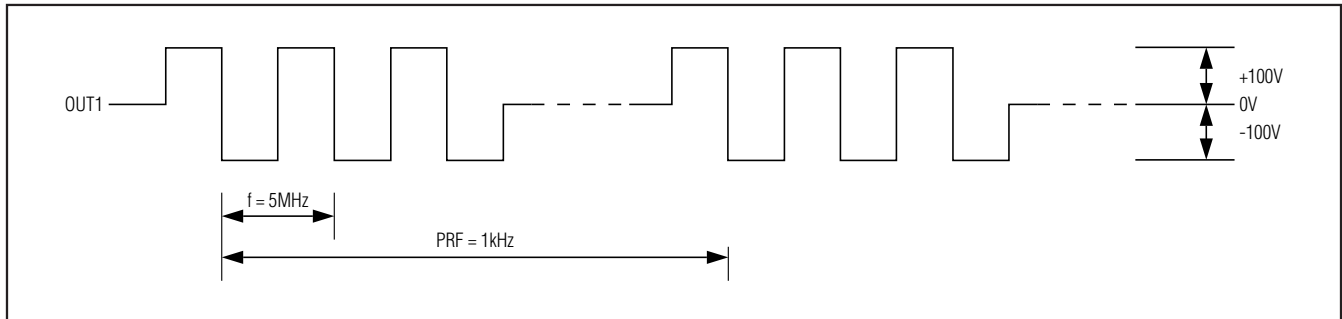

Figure 2. MAX4810 OUT1 Waveform
- 14) Verify that the signal on the OUT1 pad is similar to the waveform shown in Figure 2.